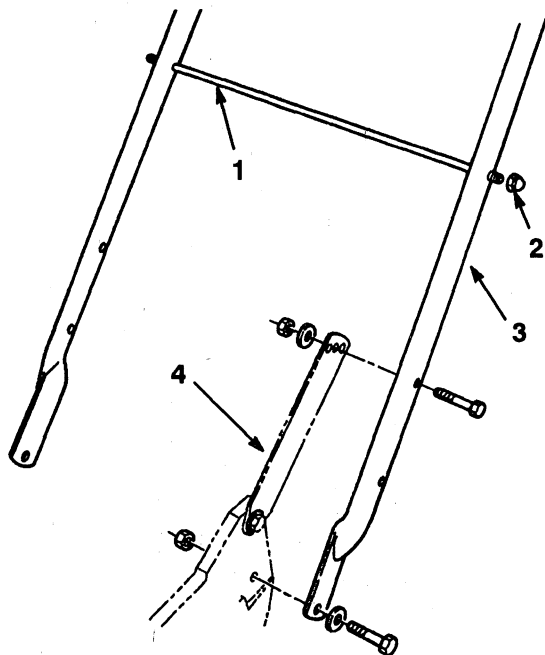

Figure 1
3. Slide bag support rod thru **top** mounting holes in handle and secure each end with a cap locknut (Fig. 1).